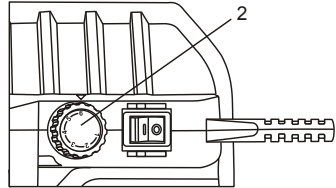

Fig. 6
The speed of the sander can be adjusted to suit the need. To set the sander speed, rotate the speed control knob (2) (Fig. 6). For the fastest speed, set the speed control knob at #6. For the slowest speed, set the speed control knob at #1.